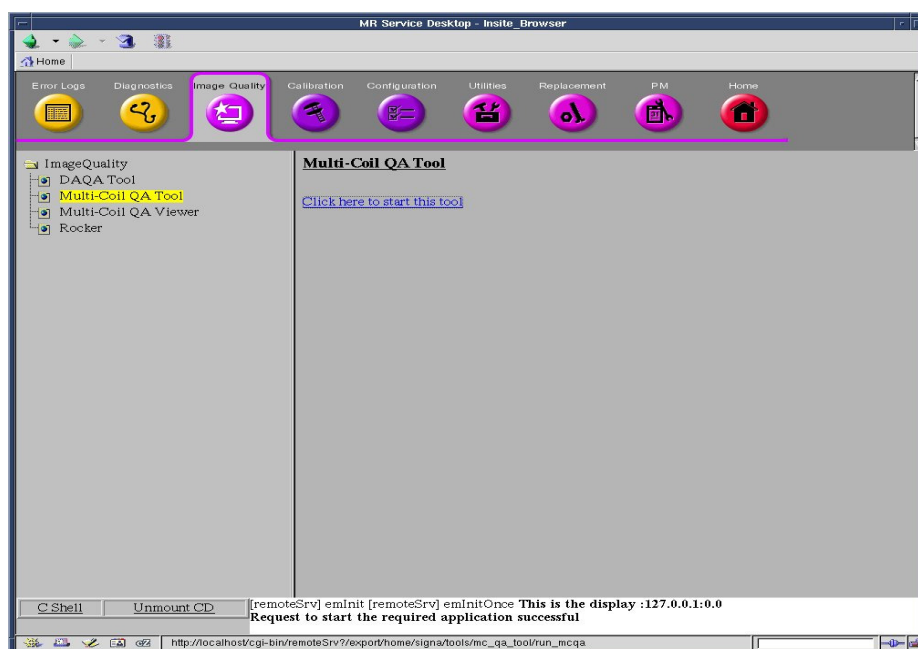

Figure 1
- From Common Service Desktop (CSD), go to Service Browser and select [Image Quality] “Multi-Coil QA Tool” and then “Click here to start this tool” as shown in Figure 1.